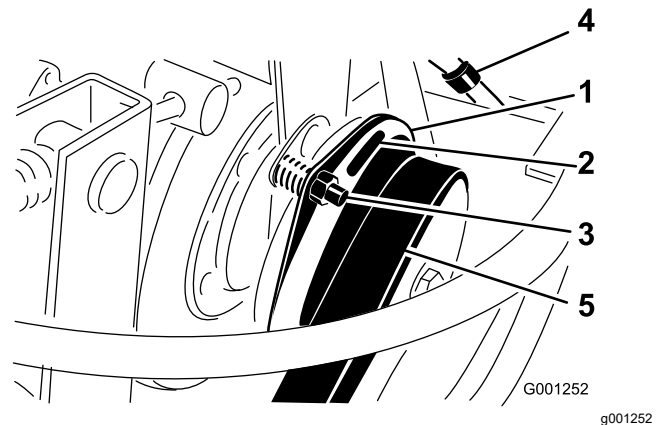

Figure 95
6. Adjust the air gap so that a 0.4 mm (0.015 inch) feeler gauge slides in between the clutch lining and friction plate with light pressure (Figure 95).
Note: You can decrease the gap by turning the adjusting nut clockwise (Figure 95). The maximum service gap is 0.7 mm (0.030 inch). Adjust all 3 air gaps.